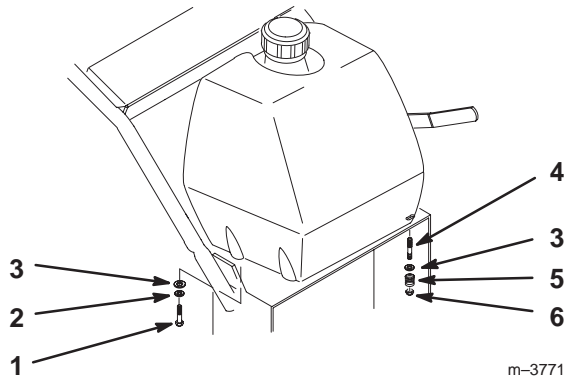

Figure 11
- Align fuel tank to top of rear frame and secure fuel tank right side with 2 bolts (5/16 x 7/8 in.), 2 lock washers (5/16 in.) and 2 washers (5/16 in.) (Fig. 11).
- Secure fuel tank left side to frame with 2 studs (5/16 x 7/8 in.), 2 washers (5/16 in.) and 2 locknuts (5/16 in.) (Fig. 11).